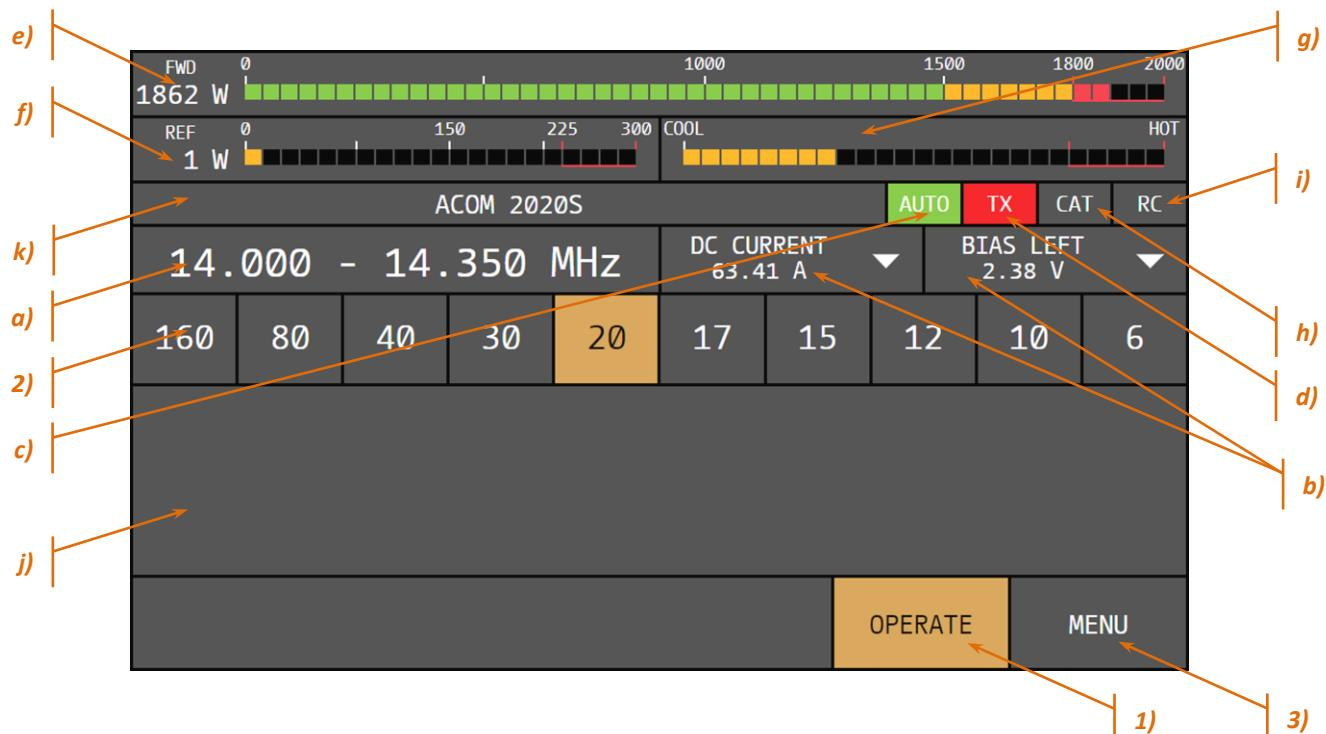

Figure 3-2 Basic screen
In order to start up the amplifier, push and hold the RCU's rear panel **POWER** button for one or two seconds. After pressing the power button you will hear two short beeps, indicating that power on sequence is started. About ten seconds later (boot sequence) the touch screen will flash and show the basic screen with the amplifier information (see Figure 3-2 Basic screen).
Please, see **Figure 3-2 Basic screen**, Pos. (a).
It changes automatically in case the amplifier is sent a signal in a frequency range, different than the one currently selected. However, it is recommended to manually change to the intended range using the band-selection buttons (see **Figure 3-2 Basic screen**, Pos. (2)).
Please, see two parameter panels on **Figure 3-2 Basic screen**, Pos. (b).
Please, see Figure 3-2 Basic screen, Pos. (c).
Please, see Figure 3-2 Basic screen, Pos. (d).
Please, see Figure 3-2 Basic screen, Pos. (e).
Please, see Figure 3-2 Basic screen, Pos. (f).
Please, see Figure 3-2 Basic screen, Pos. (g).
Please, see Figure 3-2 Basic screen, Pos. (h).
Please, see Figure 3-2 Basic screen, Pos. (i).
Please, see Figure 3-2 Basic screen, Pos. (j).
Please, see Figure 3-2 Basic screen, Pos. (k).
Please, see Figure 3-2 Basic screen, Pos. (1).
Please, see Figure 3-2 Basic screen, Pos. (2).
These ten buttons are used to select the desired band and are labeled in meters. Currently selected band is highlighted and upon selecting one, the FREQUENCY indicator (see Figure 3-2 Basic screen, Pos. (a)) changes its value to reflect the change.
Please, see Figure 3-2 Basic screen, Pos. (3).
Turn the amplifier on, as described in Sections **3.1 Low Energy STANDBY Mode of the Power Supply** through **3.4 Basic Screen** (see **Figure 3-2 Basic screen**).